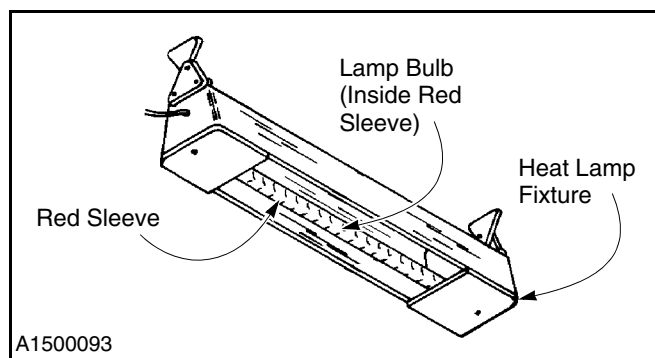

Figure 23
2. Inspect the top of each heat lamp fixture for dirt and dust. Clean as required. (See Figure 23.)